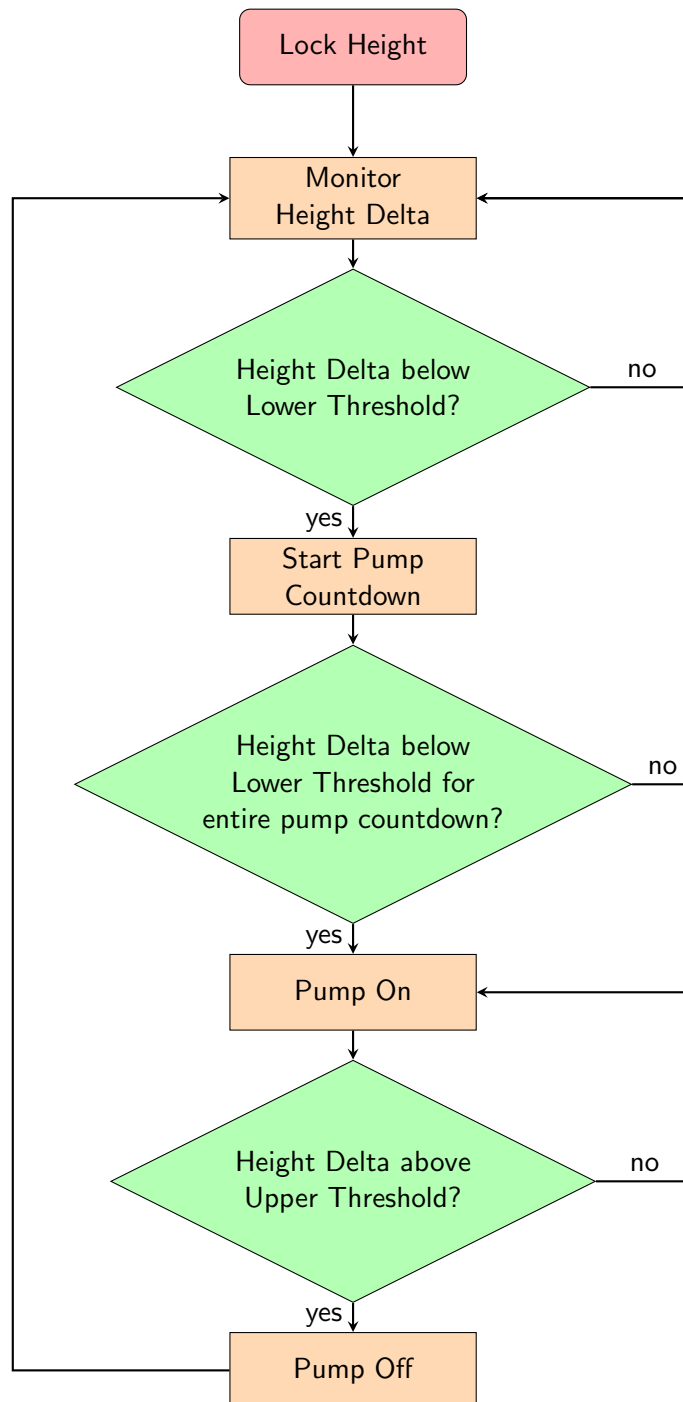

Figure 3: Flowchart of the control logic for the pumping part of the LSHC.
The above readout is performed at 30 Hz, and a moving average of the centre is also calculated at 1 Hz (every 30 frames), to reduce the effects of instantaneous fluctuations. The number of frames to average can be controlled by the user. The 'slow' readout (1 Hz) is used to control when the syringe pump turns on, and the 'fast' readout (30 Hz) is used to control when the pump turns off. The logic that dictates how the pump turns on is shown in Figure 3.
To briefly summarise what is shown in Figure 3, when the height of the liquid surface is at the desired position, the user will 'lock' the height. Then the program will continually monitor the difference between the actual height and the locked height (this difference is the 'height delta'). If the height delta falls below a given threshold (set by the user), then a countdown (set by the user) is started. This counts the number of 'slow' frames that the height delta is below the threshold. If the height delta remains below the given threshold for the entire countdown, then the pump starts pumping at a speed set by the user. If at any point, one of the 'fast' frames has a height delta which exceeds the upper threshold (set by the user), then the pump turns off.
- **Lock Height:** switching this toggle will store the Current Height as the Locked Height, and start the logic described in Figure 3 to maintain the height using the syringe pump.